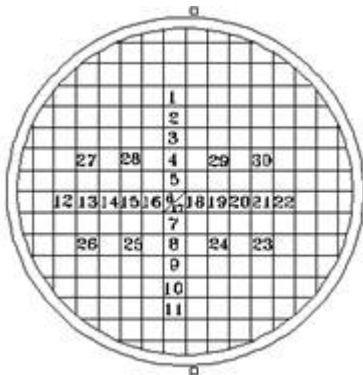

Figure 6.5
- On the dried sample filter, locate the square directly in the center of the filter's grid and make an identification mark. This is area of interest – square # 6/17. See Figure 6.5.